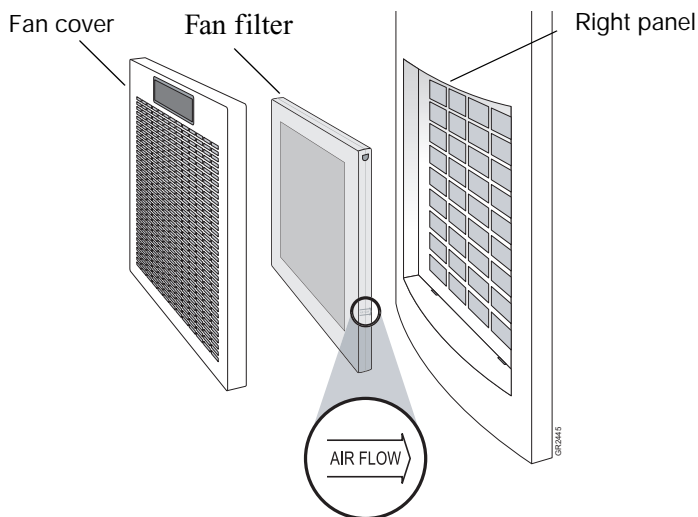

Figure 5-4 Removing the large fan filter cover and filter
3. For the one large fan on the right panel, remove the large fan filter cover, then remove the filter (see Figure 5-4).
3. Reinstall the filters and filter covers. Position the large filter such that the air flow arrow points toward the inside of the instrument (see Figure 5-4 on page 5-8).